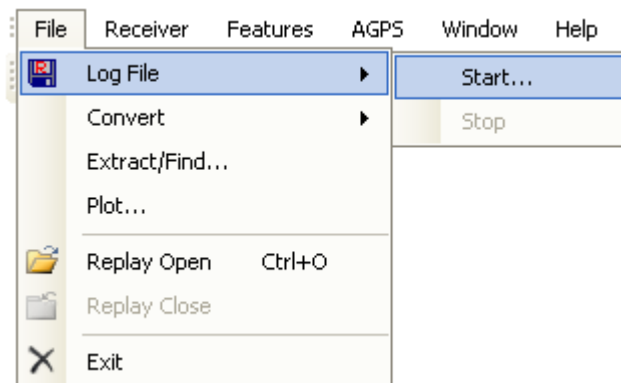

Fig 18: *Main Menu Bar* access to the Log File command.
1. While the receiver is outputting messages to SiRFLive, click on the *Log File* icon on the *Main Tool Bar* or go through the *Main Menu Bar* under “Log File” then “Start. .” shown in Fig 18.